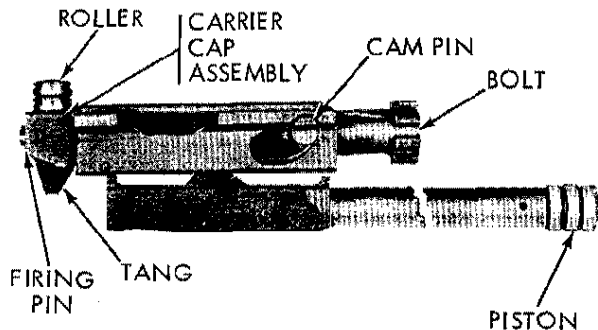

FIGURE 16. CARRIER, PISTON AND BOLT ASSEMBLY
(1) Push down on the base of the firing pin until it is flush with the back of the carrier cap assembly (fig. 16).
4. Carrier and piston assembly. Shake the gas cylinder assembly (fig. 16) to determine if the inertia pin in the piston rod has free movement. If it is not free, remove the roll pin and piston head and clean. Saturate patches with bore cleaner and wipe the exterior surface of the piston as clean as possible. The piston does not need to have a shiny surface to function properly. Do not use abrasives to clean the piston.
(3) Replace the firing pin in the bolt carrier. Push down on the rear of the firing pin until it is flush with the rear of the carrier cap assembly. Holding the firing pin in this position, rotate the carrier cap assembly 1/4 turn, so the tang on the carrier cap assembly is in the downward position as shown in figure 16.
(1) Holding the machinegun in the left hand, muzzle pointing down, insert the carrier-piston bolt assembly (fig. 9). The bolt must be in the forward position with the cam pin aligned with the bolt carrier rail (fig. 16).